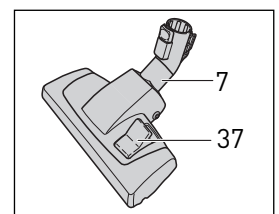

Figure 18
### Kombi Nozzle - Figure 18
The Kombi nozzle (7) is adjustable for carpet or hard floors. To set for carpet, push the small end of the toggle button (37) downward until it clicks into place. The hard floor dusting brush will raise up allowing the head to move over the carpet. To set for hard floors, push the large end of the toggle button (37) downward until it clicks into place. The brush will lower to gently sweep your floors. **The toggle button in Figure 18 is set in the position for hard floors.** The brush should be cleaned regularly. Remove the Kombi nozzle from the telescopic tube to clean. Fibers and hair can be pulled out of the bristles manually, or vacuum the bristles with the telescopic tube. The brush strip is removable for cleaning and replacement.